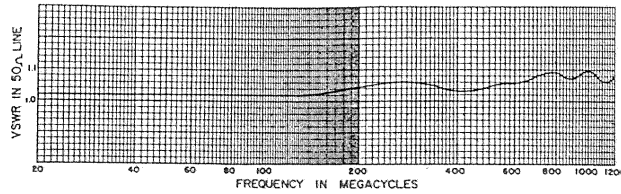

Figure 13. Typical VSWR - Load Choke and Adapter
(2) RF Load Impedance - Voltage standing wave ratio - Fig. 13 shows the VSWR produced by the load portion of the wattmeter when connected to a 50-ohm coaxial line. This smooth curve is free from the rapid cyclical changes of VSWR with frequency which are typical of lossy line loads. The average curve represents results of measurements made on many loads. All loads will have VSWR's which fall below the "maximum allowable limit" curve. This VSWR curve also includes whatever small effect the choke L201, the capacitor C201 and the adapter P201 may have on the measured VSWR.
(3) Cooling System - To assure full power rating, the cylindrical film resistor R201 is immersed in oil which carries heat by convection through openings in the coaxial metal shell to the inside wall of the enclosing cylinder. From there heat is conducted through the fins and carried away by air convection. The cooling system is conservatively rated. It will handle the stated power (300 watts) continuously without damage, or 500 watts for 20 minute periods, with time in between periods for the load to return to ambient temperature. These power ratings are valid for operation in an ambient temperature range from -4 degrees Fahrenheit to +125 degrees Fahrenheit. The coolant used is a high flash point transformer oil, conforming to Federal Specification VV-0-401. The Load resistor unit must be reasonably full of proper coolant or the r-f input impedance will be changed. The dielectric constant of the coolant is an important factor in determining the input impedance. Careful attention has been given to obtaining a design which is leakproof under service conditions. In order to get both high quality r-f connectors and a leakproof design, teflon insulators compressed as gaskets for the r-f connections and "O" rings of synthetic high temperature resistant rubber are used. Slight leaks are not of too great significance, such as a slight leak around the base of r-f input connector J201.
It will be possible to check VSWR in the field with a slotted line, if available, or with a reflection measuring device such as AN Type IM-89/UR Indicator, Standing Wave. If the load unit is discovered to have standing wave ratios in excess of those shown in Fig. 13, the dummy load E206 should be replaced as in paragraph 33 of this section.